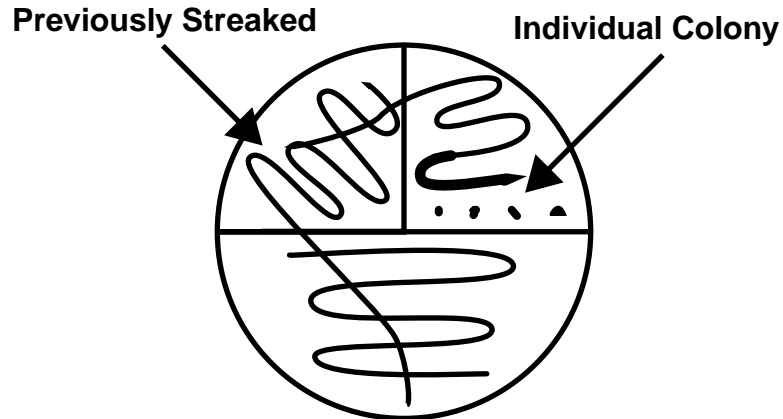

Figure 5.7: Incubate the streak plate until you can see individual colonies. Make sure to keep an open beaker of water in the incubator.
10. Seal the petri dish with a layer of parafilm around the edge. This keeps the agar from drying out while it is in the incubator. Incubate the streak plate at 37°C until you can see individual colonies. Make sure to keep an open beaker of water in the incubator. Periodically check that the beaker has water in it—do not let it run dry. The water will maintain a constant level of humidity (100%) in the incubator. See Figure 5.7.